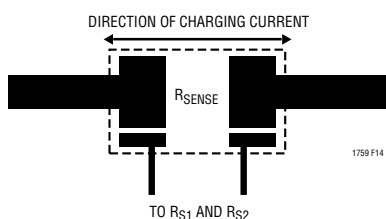

Figure 14. Kelvin Sensing of Charging Current
5. For best current programming accuracy provide a Kelvin connection from  $R_{SENSE}$  to  $R_{S1}$  and  $R_{S2}$ . See Figure 14 as an example.